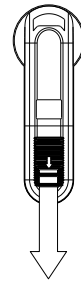

Figure 1
1. Remove the battery cover (see *Figure 1*).